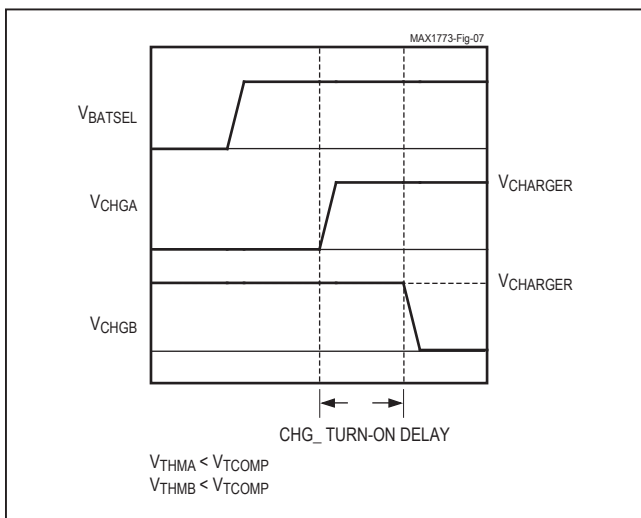

Figure 7. Charge Turn-On Delay (Battery A to Battery B)
**Note 11:** CHG\_ Turn-on Delay begins when  $V_{CHG\_}$  of the battery being switched from begins to rise and ends when  $V_{CHG\_}$  of the battery being switched to begins to fall (Figure 7 and 8).